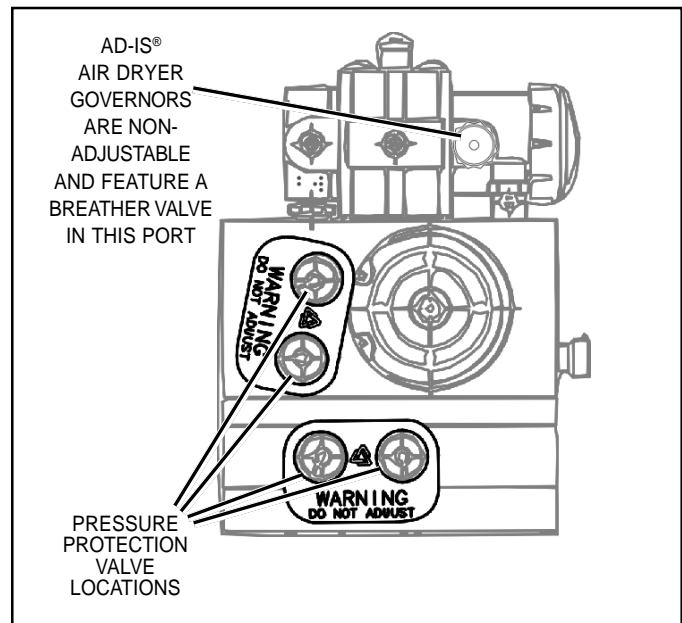

FIGURE 5 - PRESSURE PROTECTION VALVE LOCATIONS
**NOTE:** Kits are not available for the servicing of the pressure protection valves (See Figure 5). Do not attempt to adjust or service the pressure protection valves - these are not service items.